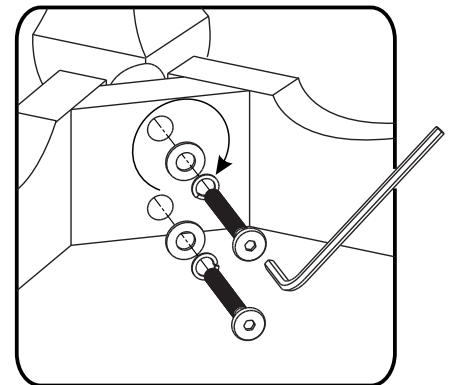

Figure 1
Attach Legs (D) and (E) to Seat (A) with Flat Washers, Spring Washers and Head Cap Bolts, tightening bolts only halfway. (See Figure 1)